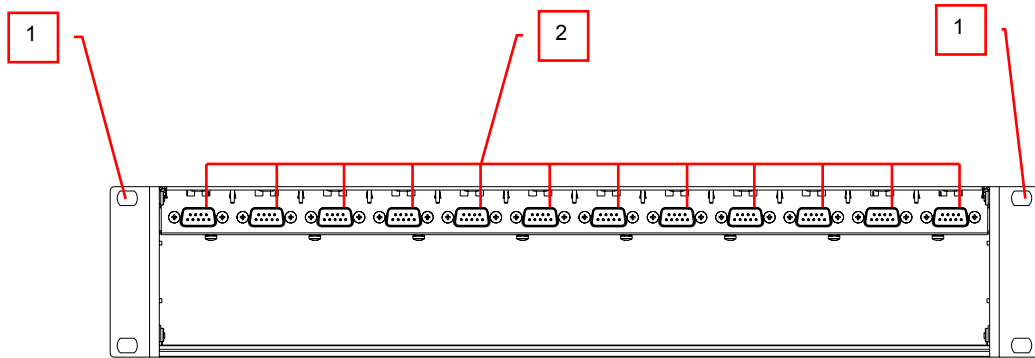

Figure 1. HDX002 Front view, 1) Mounting bracket(s), 2) Module data and power connectors
While keeping the front panel brackets against the posts or mounting strips, position the frame so that the holes in the brackets are aligned with those in the mounting strips. Secure it on place using M6x12 mm screws through the front panel brackets (Fig. 1 pos. 1). Insert the bottom screws first to avoid damage to the front panel brackets. Use all four screws to fasten frame to the rack post, because the brackets support the weight of the chassis.